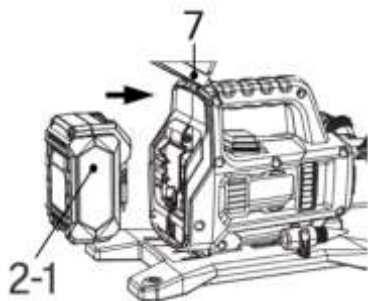

Fig. 2
2. Remove the back cover (#7) (Fig. 2).